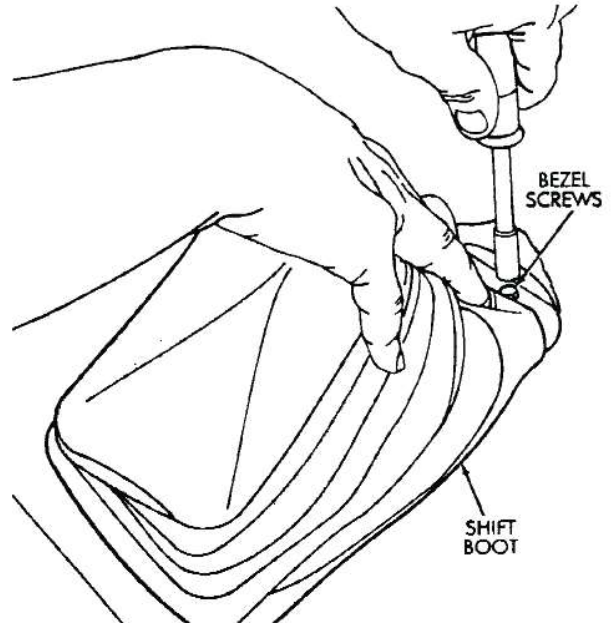

Fig. 1-2 Removing Shift Boot
2. Remove the boot attaching screws and remove the boot (Fig. 1-2).